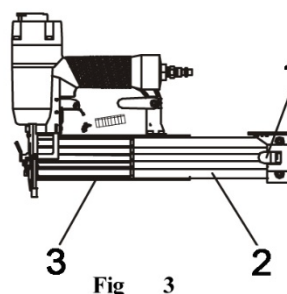

Fig 3
1. Press down the lock to release the movable magazine and pull out the magazine fully, see fig. 3.
2. Place a set of fasteners of the right type and size in the fixed magazine (39). The magazine holds up to 100 fasteners.